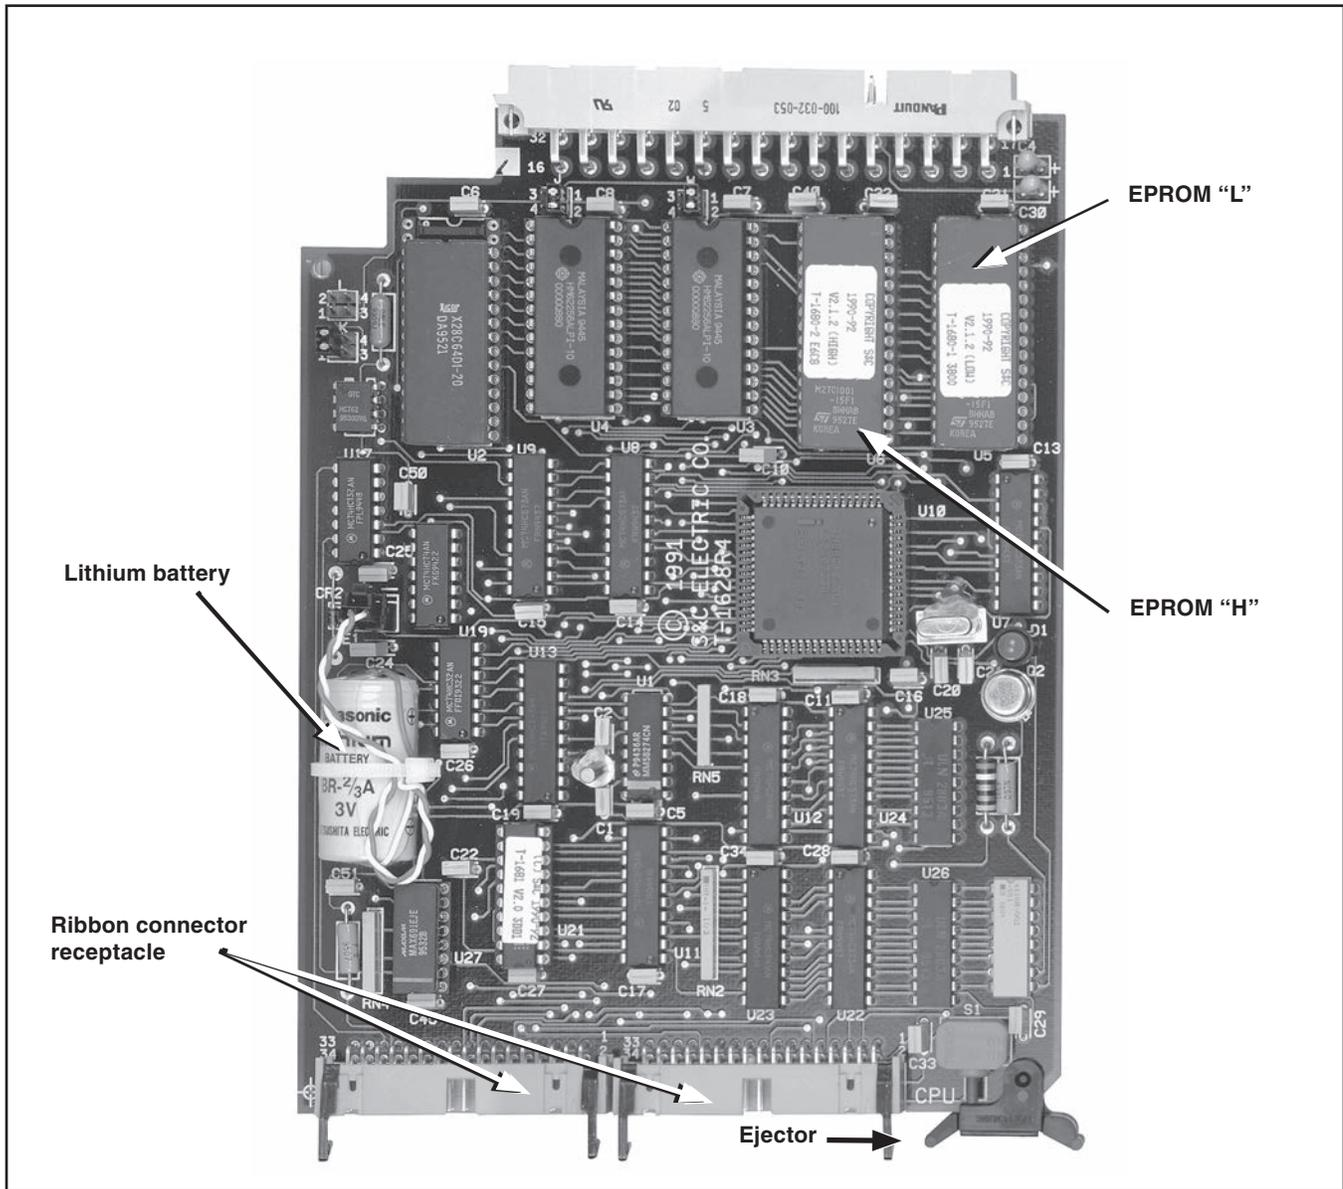

Figure 4. The CPU card.
- (c) Place the CPU card with the ribbon connector receptacles facing you. Using the extraction tool provided, remove the two EPROM “H” and “L” from their sockets, “U6” and “U5” respectively. Refer to Figure 4 on page 10. Place the removed firmware on the work mat.
- STEP 4.** Depress the tab and remove the lithium battery plug from the black plastic receptacle of the CPU card. See Figure 4 on page 10.